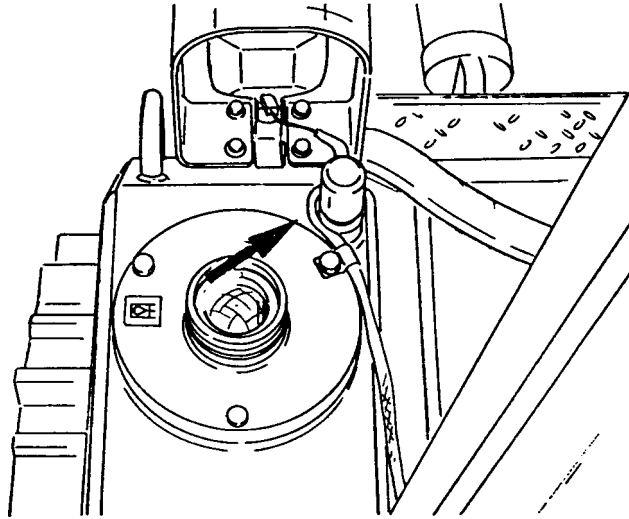

Fig. 5.31. Hydraulic Reservoir Breather Location
3. Remove the breather (Fig. 5.31) from the reservoir. Remove the lock ring (1), cover (2), element (3) and clean in a nonflammable commercial solvent. Dry thoroughly. Check O-ring (4) for wear or deterioration. Replace if necessary. Reinstall filter (3) and cover (2). Secure with lock ring (1). Reinstall the filler cap.